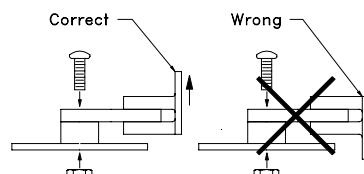

Figure 3 - Assemble Arm to Side Mount
5. Using a #8 machine screw and a #8 machine nut, loosely assemble the other end of the suspension arm to a side mount. Make sure that the “foot” of the window mount is pointed away from the side mount, as shown in Figure 3. Repeat for the second arm and side mount.